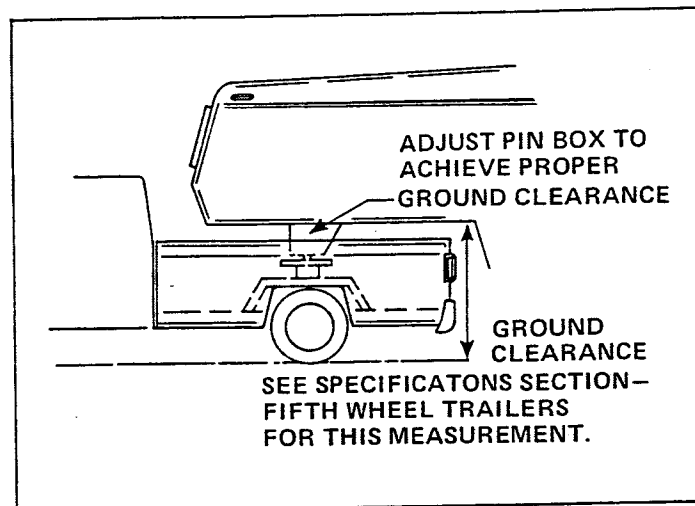

FIG. 7
**GROUND CLEARANCE** — After hitching the trailer, check the ground clearance of the cabover (FIG. 7). If the